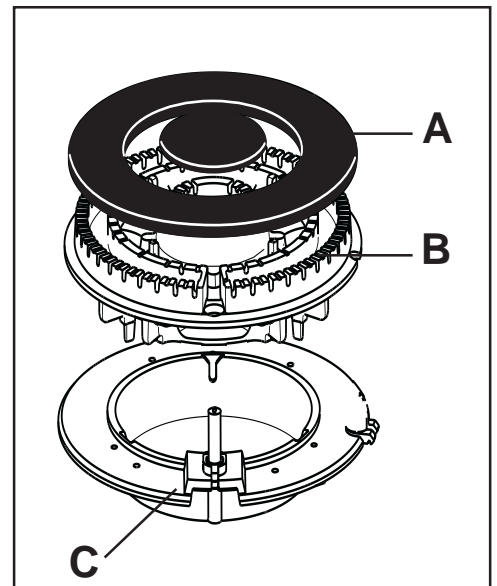

Fig. 1
**i** If you cannot light the flame even after several attempts, check the "cap" (Fig. 1 lett. A) and the "crown" (Fig. 1 lett. B) are in the correct position.
In models provided with electric ignition, this feature is obtained through a ceramic "candle" and a metal electrode (Fig. 1 lett. C). Keep these components well clean, to avoid difficult lighting, and check that the burner crown holes (lett. B) are not obstructed.